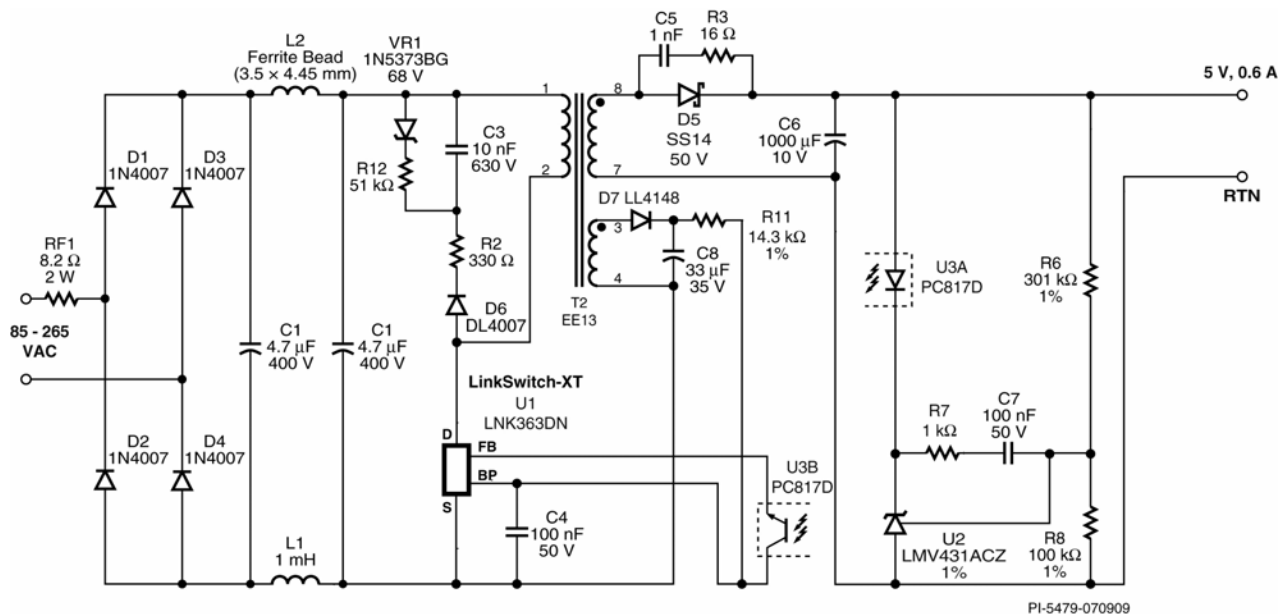

Figure 3 – Schematic.
The Flyback power supply shown in Figure 3 was designed around the LNK363DN (U1). The output voltage is sensed and feed back to U1 through optocoupler U2. That feedback is used by U1 to maintain constant voltage (CV) regulation of the output.